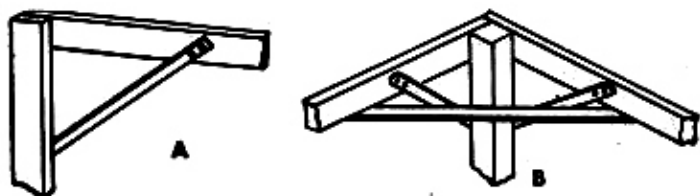

Fig. 9
**BRACING.** There must be no sway or wobble in your completed table and the way to prevent this is through proper bracing. Figure 9 illustrates some proven methods.